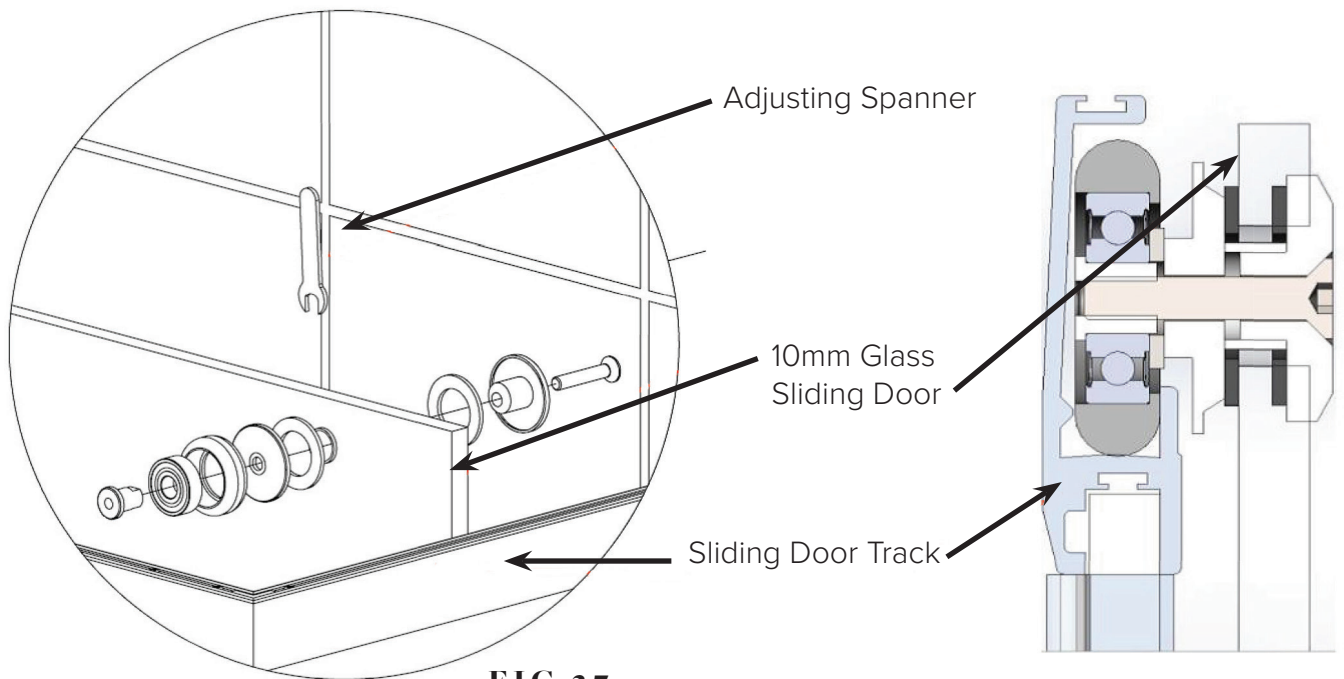

FIG 27.
- With the bush and hub pre-assembly in the opposite sides of the holes (FIG 27), place the glass sliding door into position on the wooden wedges, aligning the roller wheel holes at the top of the door as close as possible to align with the rollers in track.